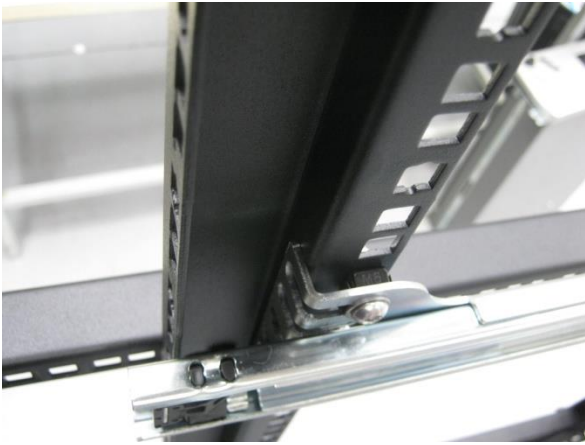

Figure 78 – Attach rear rack mount adaptors to slide
6. Use a spacer (or cage nut) to space the rear claw from the side of the rack and a washer and locknut to secure it (refer to Figure 78).